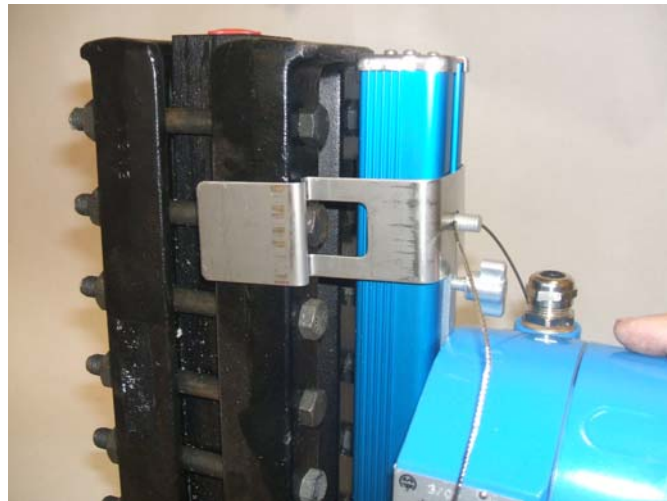

Figure 3
**Step 2:** Press LumaStar assembly against rear of gauge as shown in Figure 3, aligning the bracket cutouts over the gauge bolt heads as shown. Align the brackets with the 2nd set of bolts in from each end of the gauge, when possible.